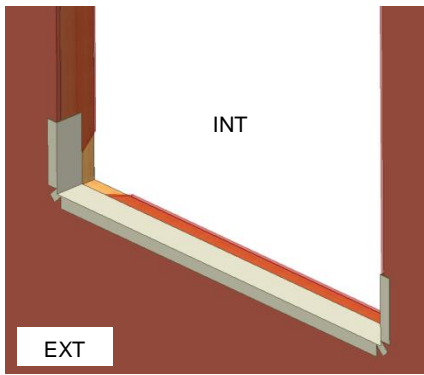

Fig. 6
- L.** Apply sill flashing to the rough opening as shown below. (Fig. 6)